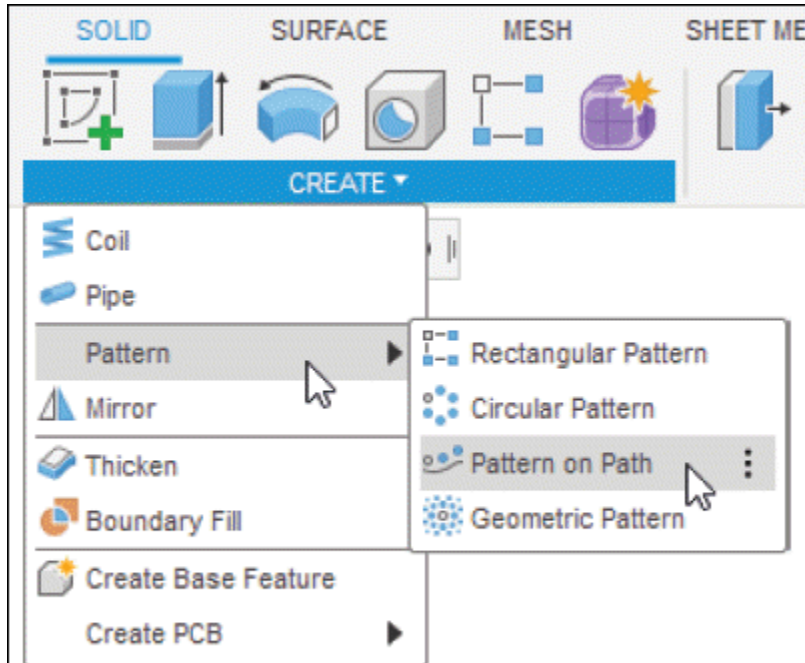
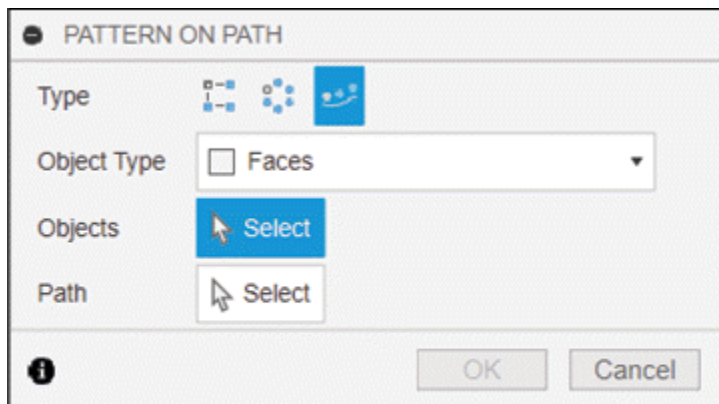

Figure-98. Pattern on Path tool
Figure-99. PATTERN ON PATH dialog box
- Click on the **Pattern on Path** tool of **Pattern** cascading menu from **CREATE** drop-down; refer to Figure-98. The **PATTERN ON PATH** dialog box will be displayed; refer to Figure-99.